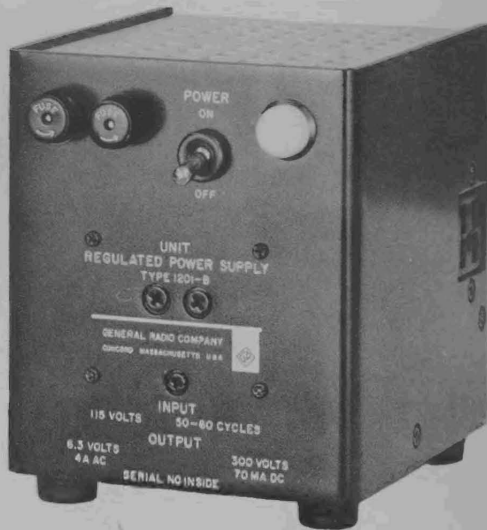

Figure 1. Panel View, Type 1201-B Unit Regulated Power Supply.
1.1 PURPOSE. The Type 1201-B Unit Regulated Power Supply (Figure 1) is designed to provide a source of regulated power for other Unit Instruments. It can also supply instruments other than those of the Unit Line, by means of a mating connector provided.